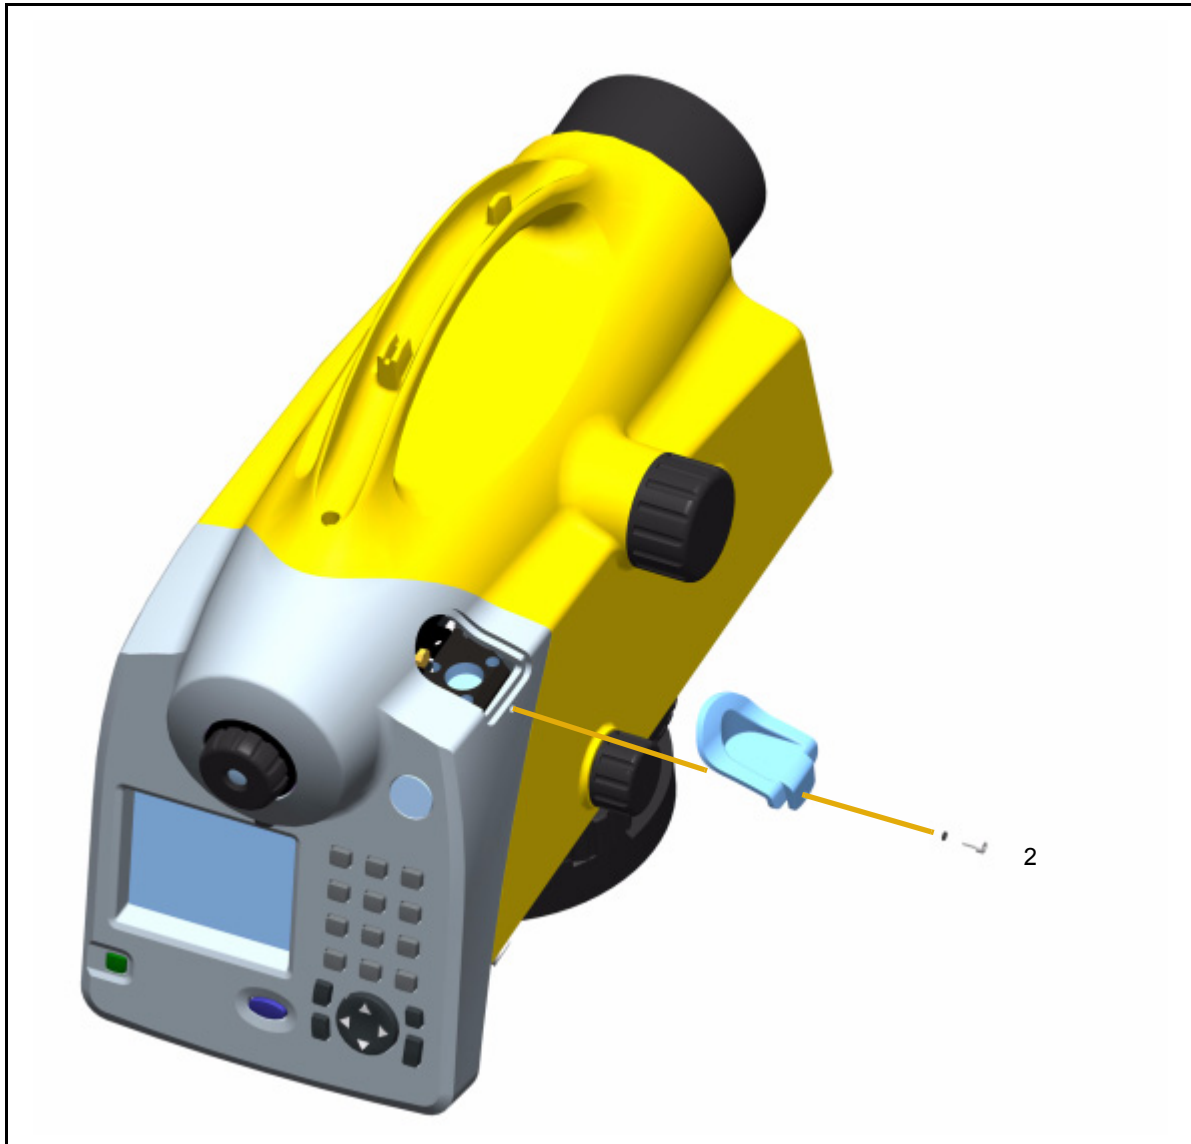

Figure 8.6 Removing the circular bubble protection cap.
1. Remove the screw (2) of the protection cap with the adjusting tool and detach the protection-cap, see Figure 8.6.